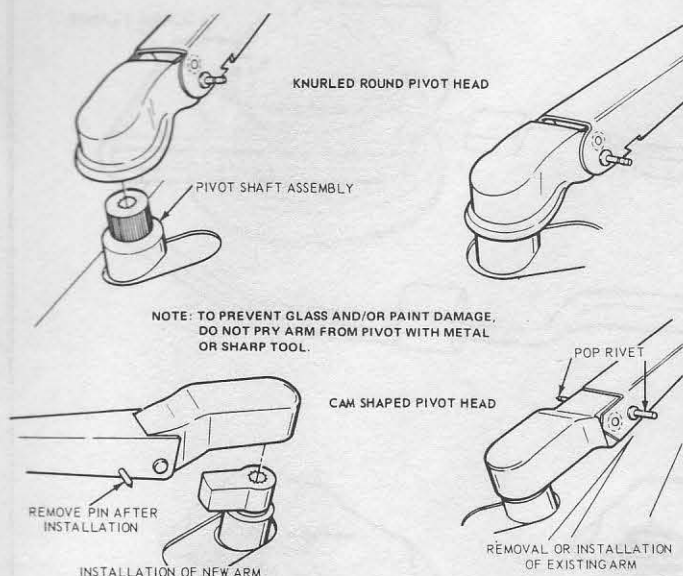

Fig. 10.25 Installing windshield wiper arm to pivot shaft (Sec. 40)
- 1 Swing the arm away from the windshield and insert a 0.09 in (2.38 mm) pin (drill or pop rivet) through the pin hole, as shown in Fig. 10.25, to release the arm which can now be pulled off. Do not pry it off with a screwdriver.